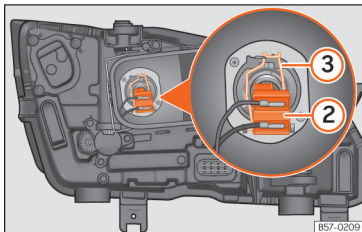

Fig. 109 In the engine compartment: dipped beam lamp.
3. Remove connector » **Fig. 109** ② from the bulb.
4. Unclip the retainer spring » **Fig. 109** ③ pressing clockwise and inwards.